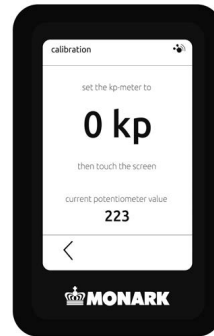

Fig: 0 KP
2. Then "0 kp" is shown in the display. let the pendulum hang free over 0 and then press the screen. See Fig: 0 KP